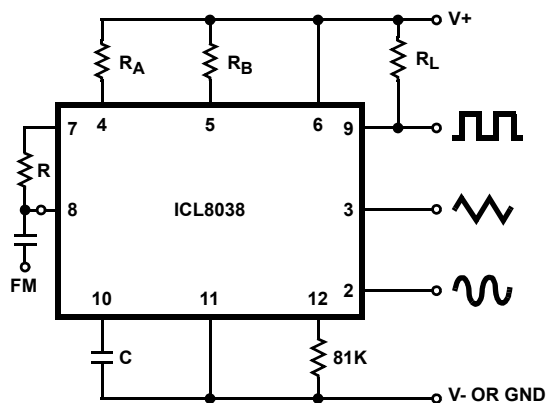

FIGURE 5A. CONNECTIONS FOR FREQUENCY MODULATION
- $V_{\text{SUPPLY}} = 20\text{V}$; R_A and $R_B = 10\text{k}\Omega$, $f \cong 10\text{kHz}$ nominal; can be extended 1000 to 1. See Figures 5A and 5B.
The frequency of the waveform generator is a direct function of the DC voltage at Terminal 8 (measured from V_+). By altering this voltage, frequency modulation is performed. For small deviations (e.g. $\pm 10\%$) the modulating signal can be applied directly to pin 8, merely providing DC decoupling with a capacitor as shown in Figure 5A. An external resistor between pins 7 and 8 is not necessary, but it can be used to increase input impedance from about 8kΩ (pins 7 and 8 connected together), to about $(R + 8\text{k}\Omega)$.